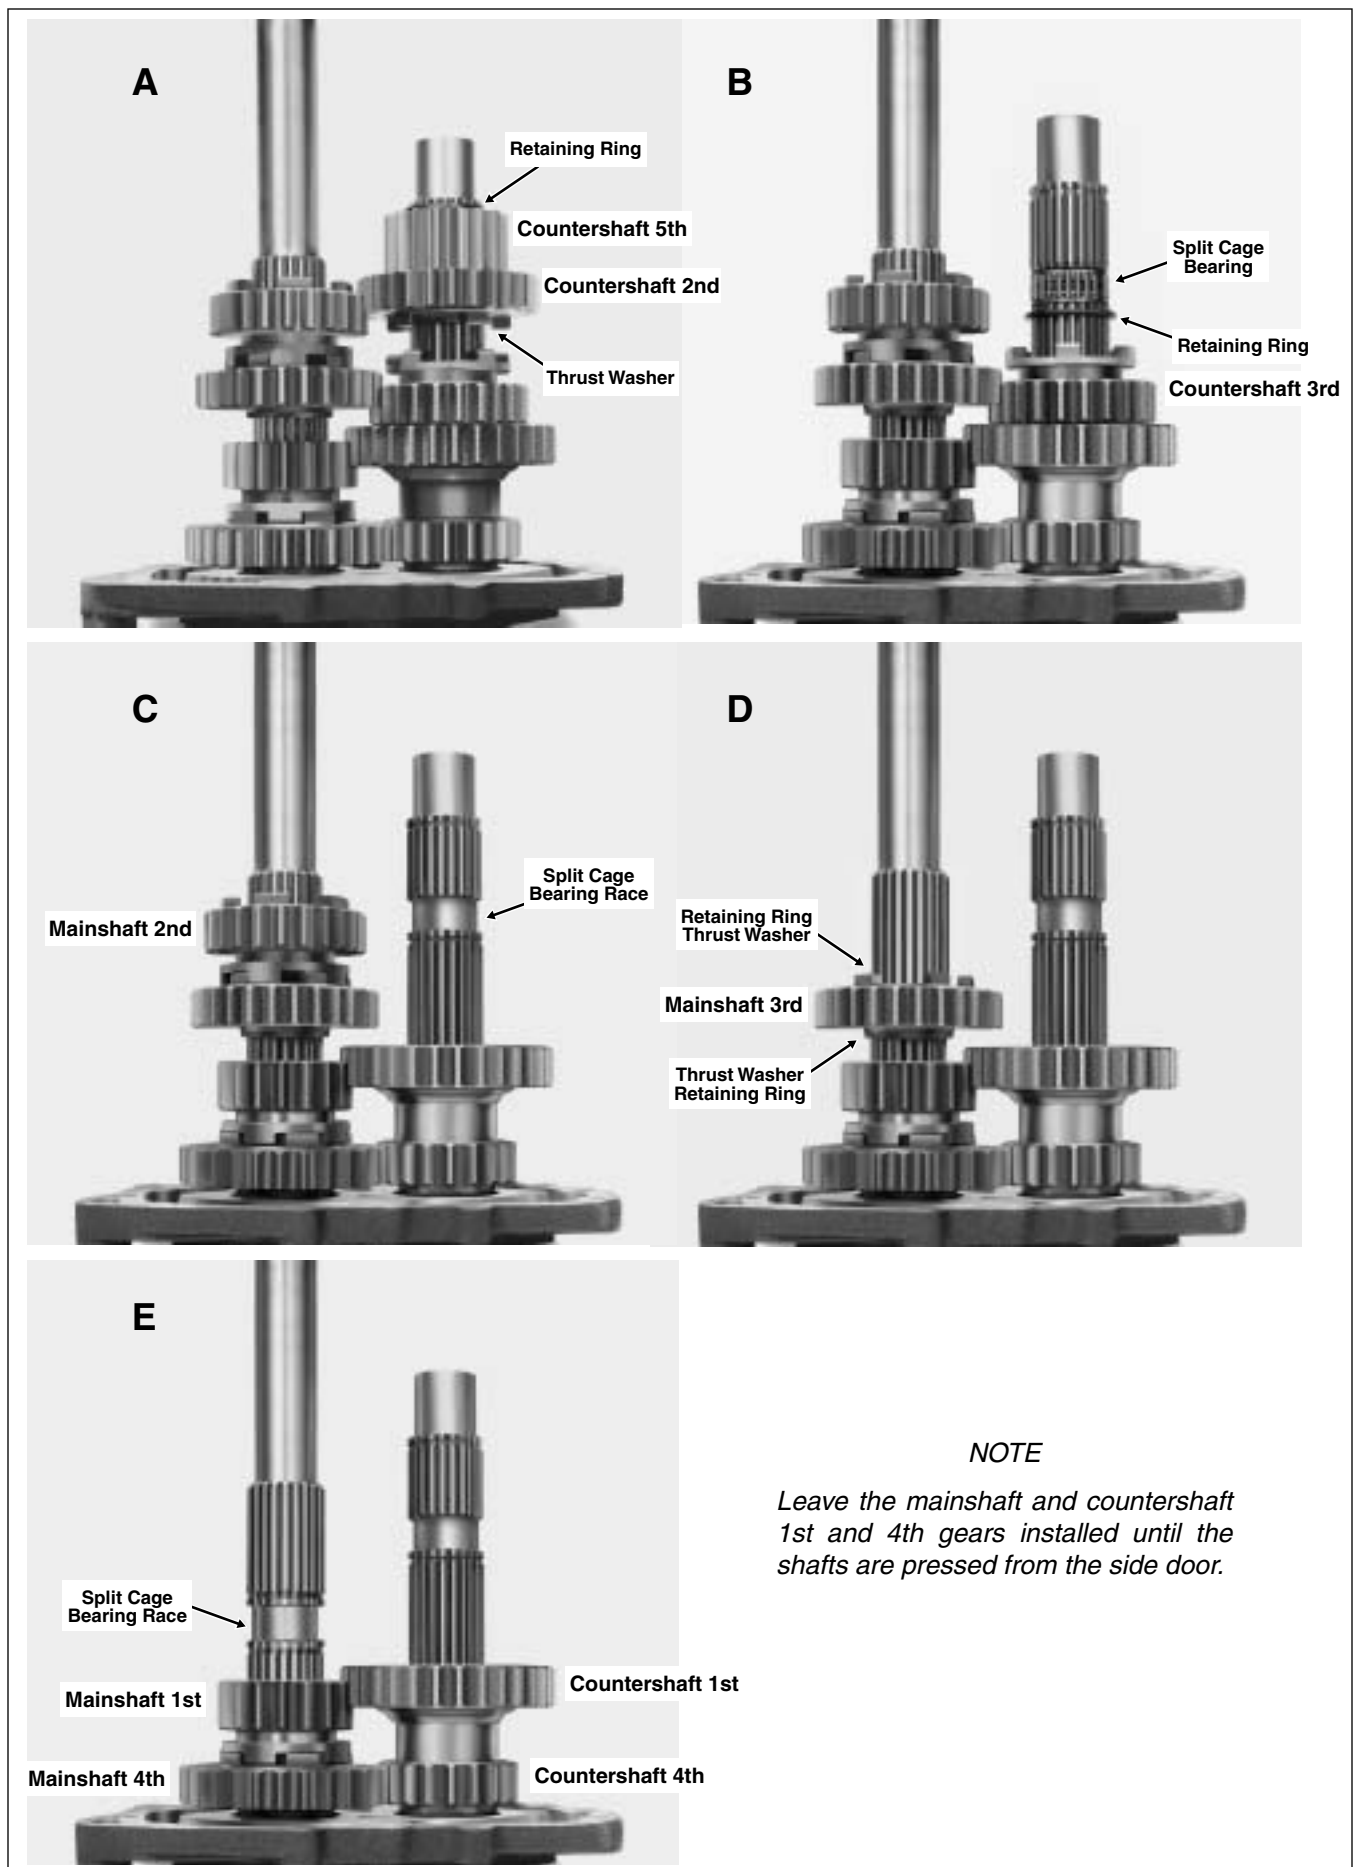

Figure 7-21. Mainshaft/Countershaft Disassembly
2. See A in Figure 7-21. Working from the end of the countershaft toward the side door, remove the retaining ring from the countershaft.
5. See B in Figure 7-21. Gently pull apart the split cage bearing and remove.
7. See C in Figure 7-21. Moving to the mainshaft, remove the mainshaft 2nd gear.
8. See D in Figure 7-21. Remove the upper retaining ring and thrust washer.
11. See E in Figure 7-21. Gently pull apart the split cage bearing and remove.